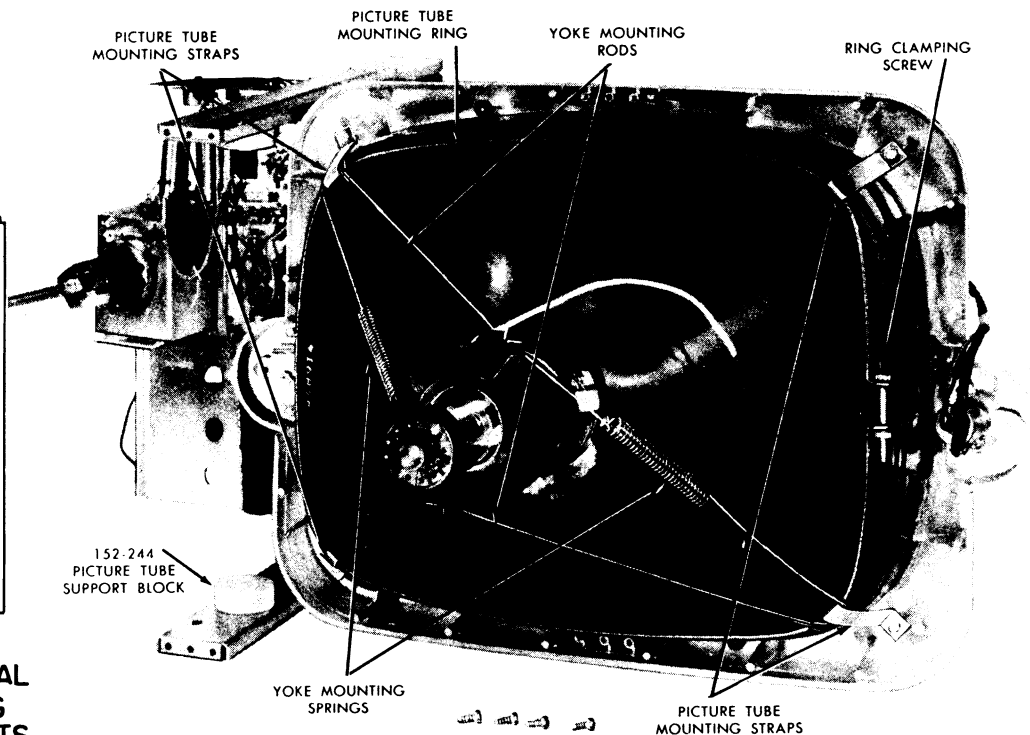

Fig. 18 Removing Picture Tube from Chassis.
2. Remove the 4 self-tapping screws which hold the picture tube and escutcheon to the chassis rails (See Fig. 18).